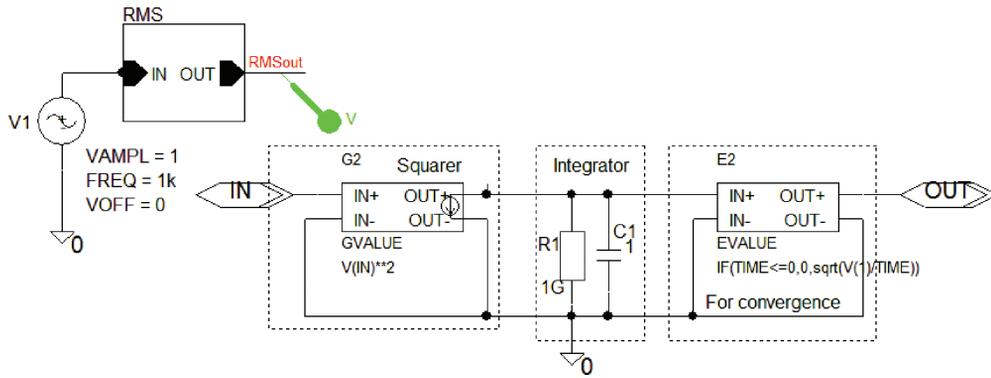
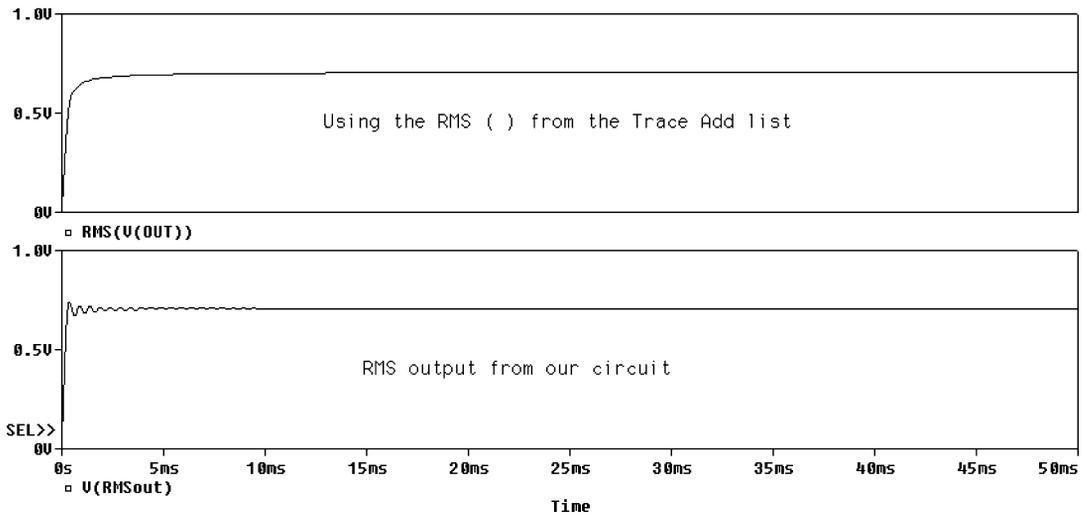

FIGURE 4.30: RMS meter in block form
FIGURE 4.31: Comparison of Probe function RMS () to the RMS meter
- (3) The true RMS meter in Fig. 4.30 is constructed from **ABM** parts (**GVALUE** and **EVALUE**). Apply a 1 kHz, 1 V sinusoidal signal using a **VSIN** part. To square the input voltage, enter **EXP = V(in)*V(in), or (V(in)**2)** into the **GVALUE** part. The integrator is followed by an **EVALUE** part using the **IF then ELSE** statement as: **IF (TIME<=0, 0, sqrt(V(1)/TIME))**. This avoids convergence problems, but also gets the square root of the voltage on the wire labeled 1. Run a transient analysis for 50 ms. Fig. 4.31 compares the RMS output to the probe function **RMS (V(RMSout))**. Both eventually settle down to the same output voltage of 0.707 V.
(4) Repeat the previous exercise for a pulse waveform. The power of a pulse waveform is